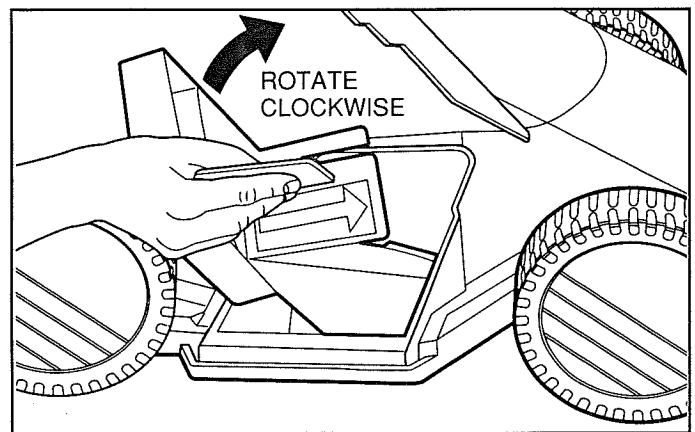

FIGURE 13
4. Pull the mulch plate out rotating it clockwise as it is removed, as shown in Figure 13.